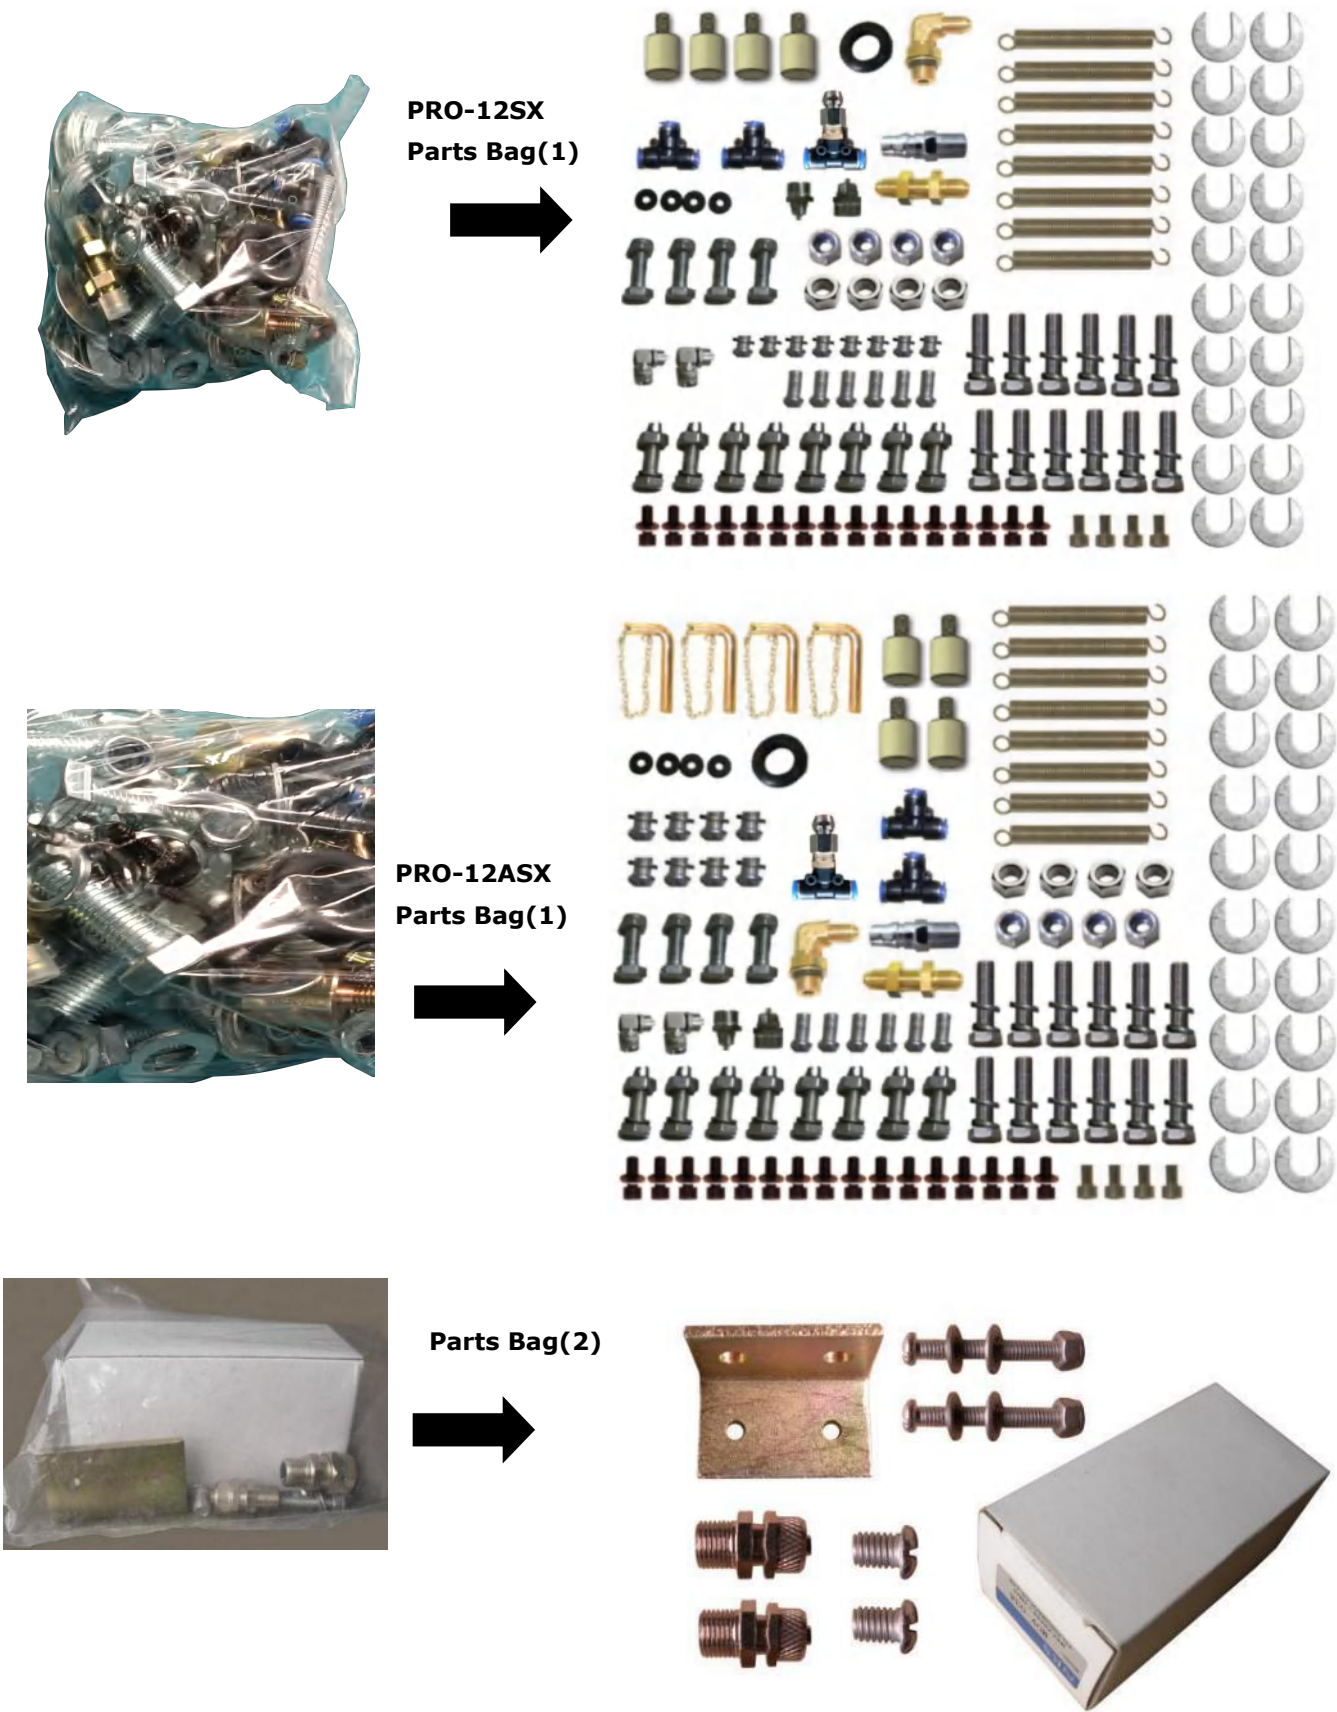

Fig.12
7. Check the parts of the parts bag according to the parts bag list (See Fig. 12).